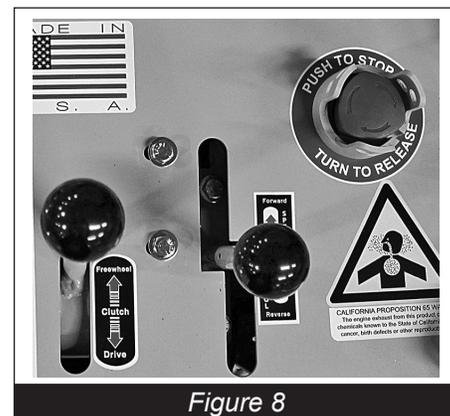

Figure 8
- Move CLUTCH lever to DRIVE position and adjust SPEED CONTROL (Figure 8).
- The SS-24 uses a hydrostatic transmission, chain and gear drive mechanism that engages both rear wheels to achieve forward and reverse movement. Machine speed is controlled by using the Speed Control lever (figure 8).
- Push Clutch Lever forward, away from operator to the FREE WHEEL position; this will stop all forward motion. (Page 7, Figure 8)